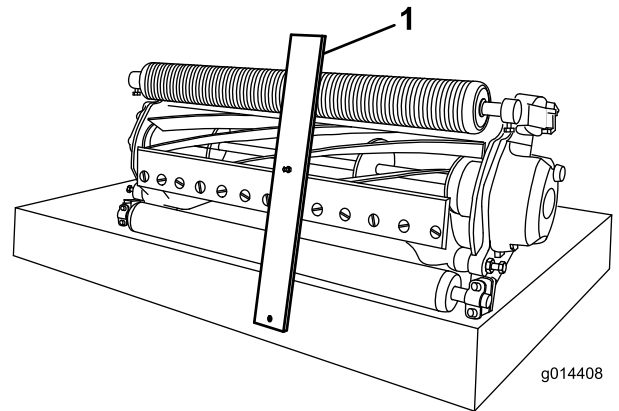

Figure 11
2. Hook the bolt head of the height-of-cut gauge onto the right side of the cutting edge of the bedknife and rest the rear end of the bar onto the rear of the roller (Figure 11).